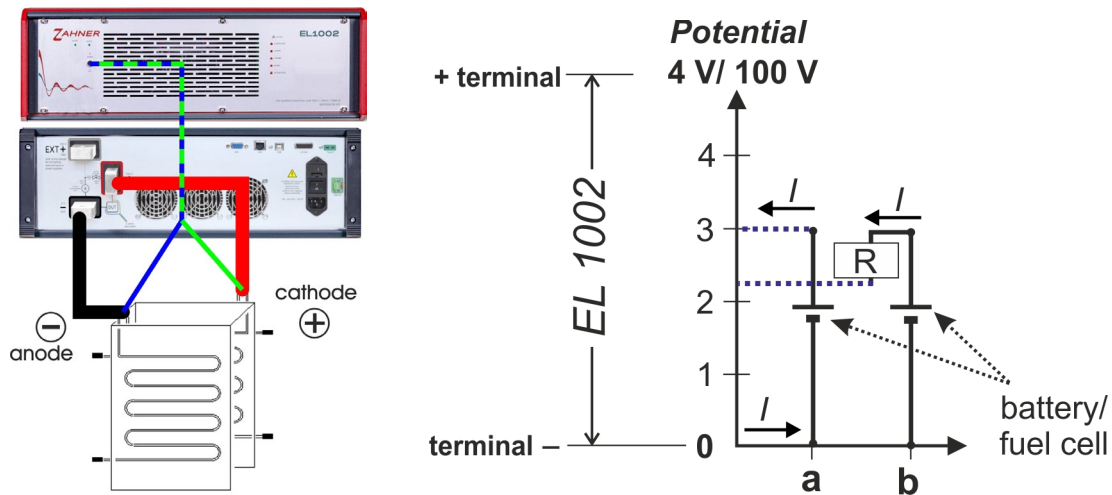
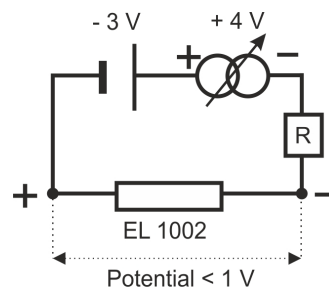
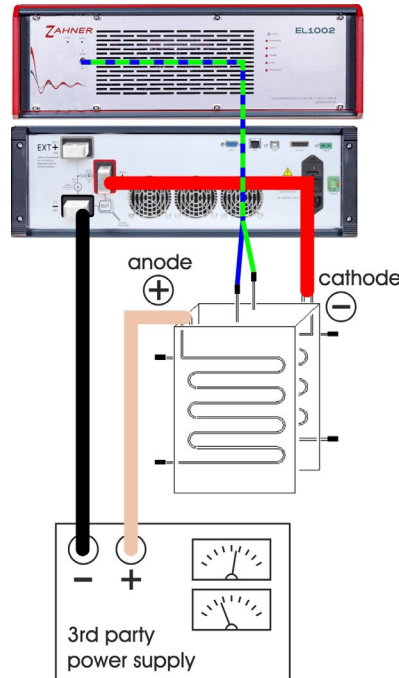

Fig. 14: One-quadrant representation showing a battery or fuel cell connected to the EL1002.
Fig. 23: EL1002 in series connection with a battery and an external power supply in reversed connections.
Fig. 24: EL1002 with serial supply
The graph in Fig. 14 shows the one-quadrant representation of the EL1002 connection with a DUT (i.e., 3 V battery or fuel cell stack). In this graph, the X-axis represents the – terminal of the EL1002 and Y-axis represents the voltage difference between the - and + terminals of EL1002 (with a maximum potential limit of 100 V). In part a), the anode (negative electrode) of the DUT is connected to the – terminal (X-axis) of EL1002, while the cathode (positive electrode) is connected to the + terminal of EL1002 (connected to the Y-axis via the blue dashed line). In this configuration, the potential is positive but will be displayed as a negative value in the Thales software.
In this representation, the current flows counter-clockwise (i.e., current > 0). The EL1002 measures the potential with the sense cables and will always display the correct voltage of the DUT, here -3 V. However, the potential between the terminals of the EL1002 will be less than 3 V. This decrease (Fig. 14, b) is caused by the voltage drop ( $U_{\text{drop}} = R \cdot I$ ) within the system, which depends on the current flowing through the system. If the current is high then the voltage drop will also be high. When sinking high currents from low potential cells (such as for large area fuelcell), the potential at the + terminal of EL1002 may become less than 1 V. In such conditions, the EL1002 will not work properly. Hence, when controlling current keep in mind that high currents will increase the voltage drop and pay attention to the voltage drop between the – and + terminals of EL1002.
The graph in Fig. 23 follows the same scheme as described in Fig. 14. The EL1002 allows current flow in one direction (counter-clockwise, Fig. 23a), which is represented as  $I_+$ . When the EL1002 as load is connected to a battery, the battery is discharged. For charging the battery, a reversed current ( $I_-$ ) must flow through the battery which is not possible with only the EL1002. Hence, to charge a battery using an EL1002, an external source is required as shown in Fig. 23b. This external source applies a potential against the battery and forces a change in the current direction in the battery which leads to charging. It should be noted that the potential of the external source should be higher than the battery's internal potential. Fig. 23c indicates the same situation as described in Fig. 23b, but under consideration of the voltage drop in the system. The blue line at the y-intercept shows the potential output between the + and – terminals of EL1002. Here the potential difference between the + and – terminals of the EL1002 is lower than 1 V. A simple schematic in Fig. 23c is also shown below to clearly indicate the connection scheme of the (reversed) battery to the EL1002 and the external source.
Usually, a cathode (positive terminal) of a battery is connected to the + terminal of the EL1002 during discharge. However, during charging (Fig. 24 & Fig. 23 b,c,d), the anode (negative terminal) of the battery is connected to the + terminal of the EL1002. Therefore, this is also referred to as the reversed connection of a battery to the EL1002.
Fig. 24 shows the same connection scheme as shown in Fig. 23c. Here, the EL1002 will read a potential of less than 1 V between its + and – terminals. The potential applied by the external power source should be increased up to a certain extent so that the total potential across the + and – terminals of EL1002 becomes higher than 1 V after compensating for both the opposing battery potential as well as the voltage drop (R). This scenario is shown in 23d.